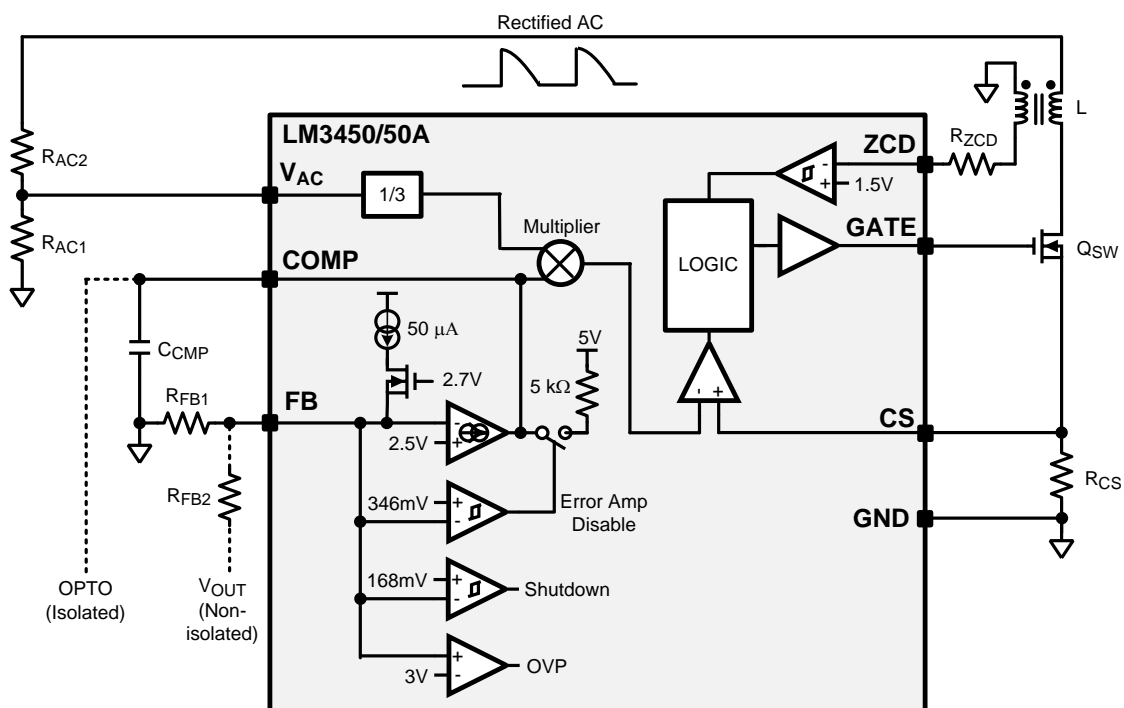
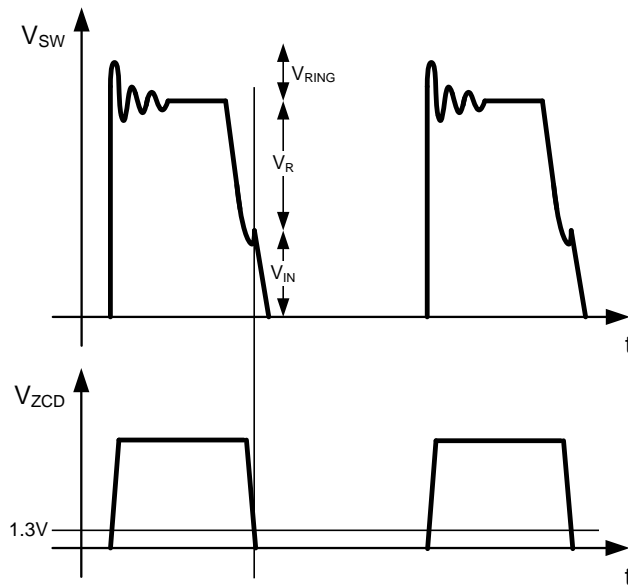

Figure 21. PFC Control Circuit
Figure 22. ZCD Waveforms for Flyback Design
The LM3450/50A uses CRM control to regulate the output voltage and provide power factor correction. In a non-isolated boost topology, an external voltage divider ( $R_{FB1}$ ,  $R_{FB2}$ ) is used to sense the output voltage, as shown in Figure 21. The divider is connected to the inverting input (FB) of the internal error amplifier. The LM3450/50A regulates the feedback voltage ( $V_{FB}$ ) to 2.5V in a closed loop fashion.
For an isolated flyback topology, where the error amplifier is on the secondary, the LM3450/50A internal error amplifier can be bypassed using a single 5.11kΩ resistor ( $R_{FB1}$ ) from FB to GND. This engages an internal 5kΩ pull-up resistor at COMP. COMP can then be connected directly to the optical isolation as shown in Figure 21.
ZCD is implemented with a 100kΩ resistor from the ZCD pin to a coupled winding on the transformer or inductor as shown in Figure 21. This winding is also used to bootstrap  $V_{CC}$  after start-up. When  $Q_{SW}$  turns off, the voltage at the ZCD pin ( $V_{ZCD}$ ) increases as energy is transferred through the auxiliary winding. The circuit arms when  $V_{ZCD}$  exceeds 1.5V. Then, when the energy is fully transferred,  $V_{ZCD}$  decreases towards zero. When  $V_{ZCD}$  falls below 1.3V, the transformer is assumed to be demagnetized, the circuit disarms, and  $Q_{SW}$  is turned back on as shown in Figure 22. The ZCD pin voltage will remain low until  $Q_{SW}$  is turned off via peak detection and the cycle repeats.
The LM3450/50A internal error amplifier is used for non-isolated designs (boost) where the output voltage can be directly sensed, via a resistor divider, at the FB pin. The FB pin is the inverting input of the trans-conductance amplifier which is regulated to 2.5V. The COMP pin is the output of the amplifier and external compensation is placed from COMP to GND in the form of a single capacitor ( $C_{COMP}$ ) as shown in Figure 21, a series resistor and capacitor, or both. The output of the amplifier sources or sinks current as necessary to force the inputs of the amplifier to be equal. The compensation method depends upon the transient performance desired and requires a loop gain analysis. This analysis can be somewhat complex and cumbersome. A detailed analysis can be found Application Notes AN-2098 (literature number SNVA463) and/or AN-2150 (literature number SNVA485).